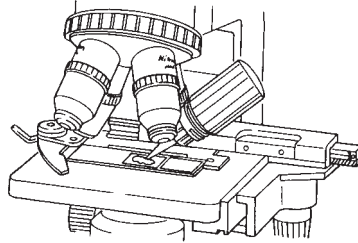

Fig. 4.8
- Put one drop of immersion oil on the specimen (Fig. 4.8).